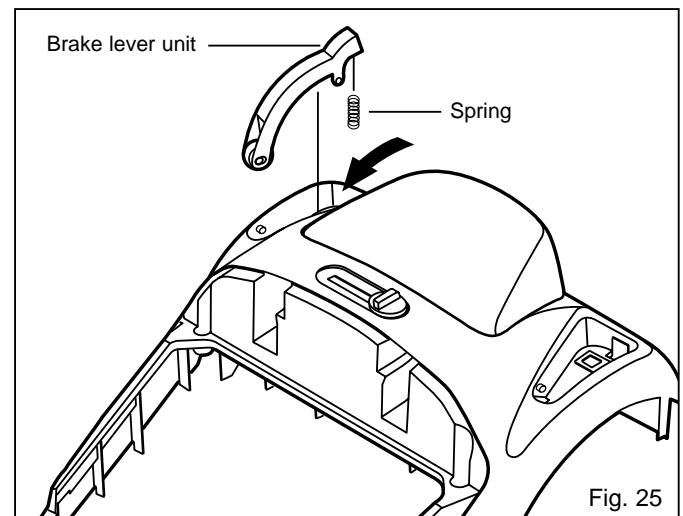

Fig. 25
3. Replace the brake lever unit with a new one and reinstall it in its lodging. (Fig. 25)